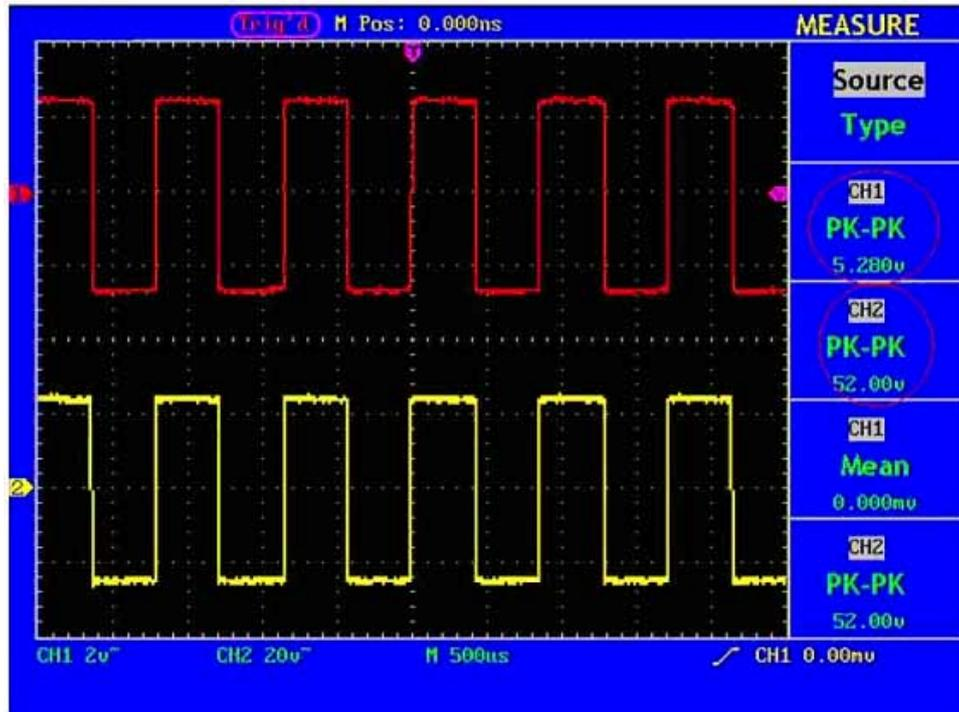

Fig. 58 Wave Form of Gain Measurement
10. Read the peak-to-peak values of Channel 1 and Channel 2 from the displayed menu (see Fig. 58).